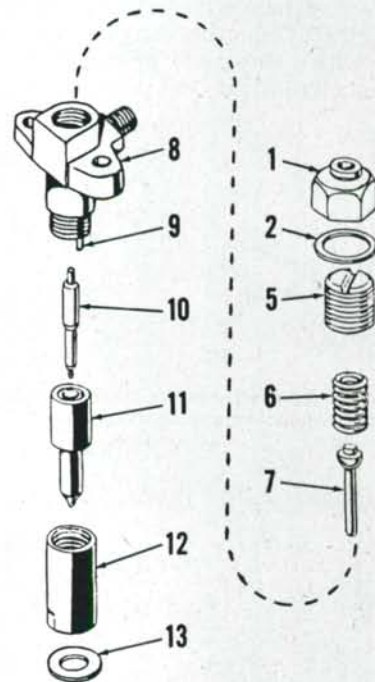

Fig. 126—Exploded view of typical injector nozzle and holder assembly.
**120. OPENING PRESSURE.** Open the valve to tester gage and operate tester lever slowly while observing gage reading. Opening pressure should be 17240 kPa (2500 psi). If opening pressure is not as specified, remove the injector cap nut (1—Fig. 126) and turn adjusting sleeve (5) as required to obtain the recommended pressure.
**NOTE:** When adjusting a new injector or an overhauled injector with new pressure spring (6), set the pressure at 17720 kPa (2570 psi) to allow for initial pressure loss.
Wipe all dirt and loose carbon from exterior of nozzle and holder assembly. Refer to Fig. 126 and proceed as follows:
Reclean all parts by rinsing thoroughly in clean diesel fuel or calibrating oil. Make certain that nozzle valve (10—Fig. 126) slides freely into nozzle body (11). If valve sticks, reclean nozzle assembly and recheck for burrs or carbon deposits. If valve still does not slide freely, renew nozzle assembly. Be sure lapped pressure faces of nozzle body and holder (8) are clean and free of scratches or other damage (Fig. 131).
Reassemble injector while wet with diesel fuel. Tighten nozzle cap nut (12—Fig. 126) to a torque of 68 N·m (50 ft.-lbs.). Do not overtighten as distortion may cause nozzle valve to stick.